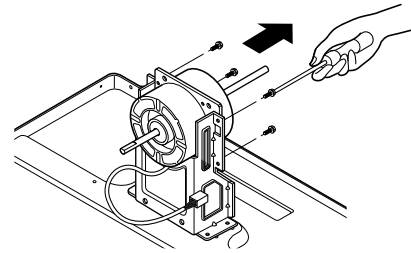

Figure 10
5. Remove the 4 or 2 screws which fasten the motor. (See Fig. 10)